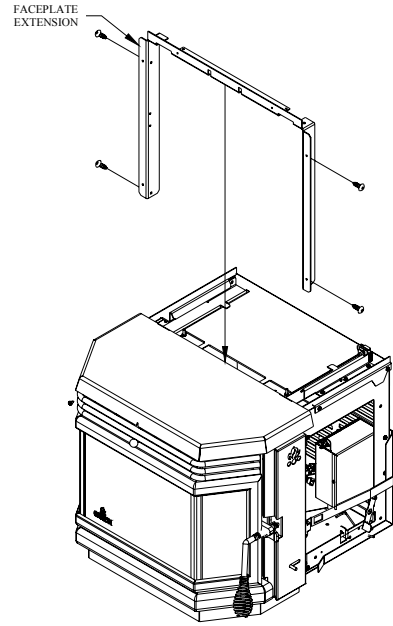

Figure 30
- 5- Attach the faceplate extension to the stove. (Figure 30)